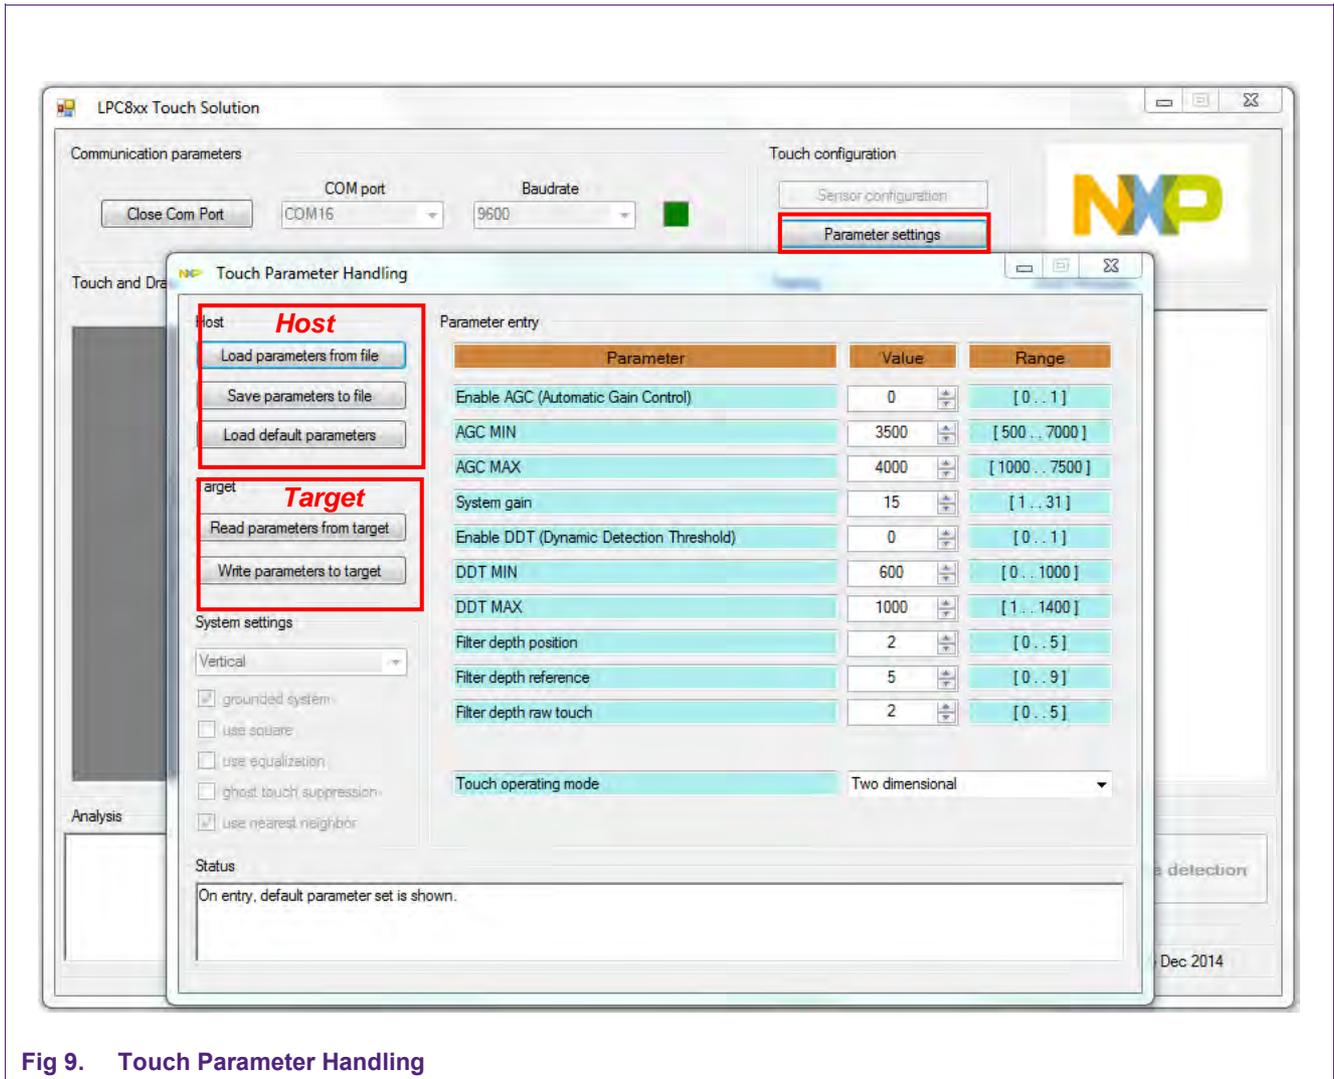

Fig 9. Touch Parameter Handling
- Click on “Parameter settings” shown in Fig 9 to see and alter the Touch configuration parameters. Default parameters set is shown on the entry.